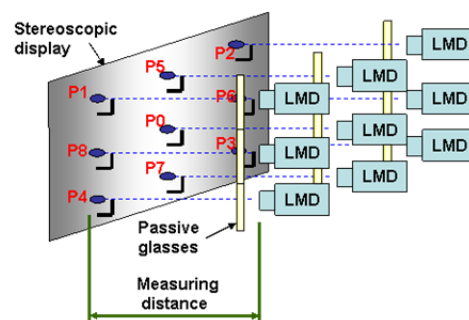

Figure 2
4.2.3 *3D normal luminance uniformity* — LMD is set along the normal line of the screen at measuring distance when the measure luminance of each selected points as shown in Figure 2.